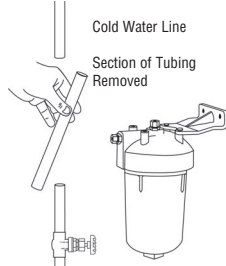

Figure 6
- Cut the cold water tube. Place a pan under tube to catch any water that may be present. (Figure 6)